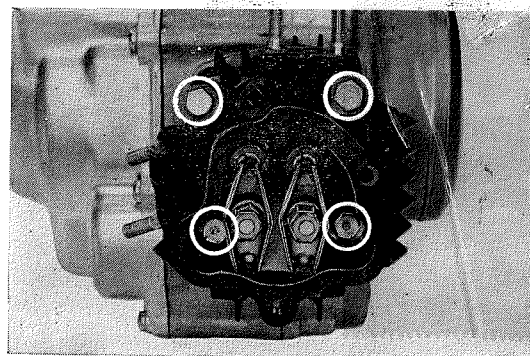

Fig. 22
2. Unscrew four 6 mm bolts to remove the cylinder head. (Fig. 22)